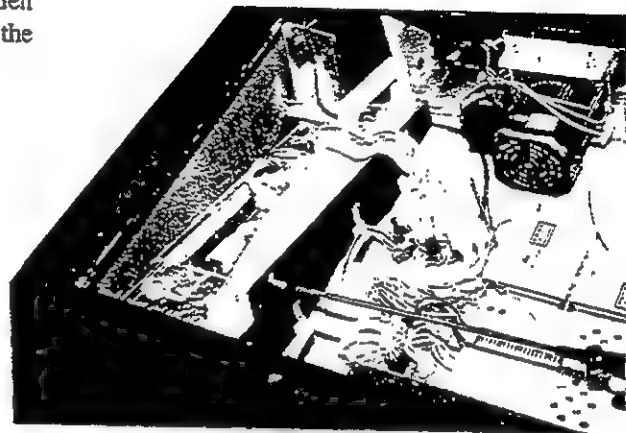

Fig. 23.3
- ④ The Shield Case is secured to the wooden Base. Take off the 2 screws which secure the Base to the Front Cabi (Fig. 23.3).